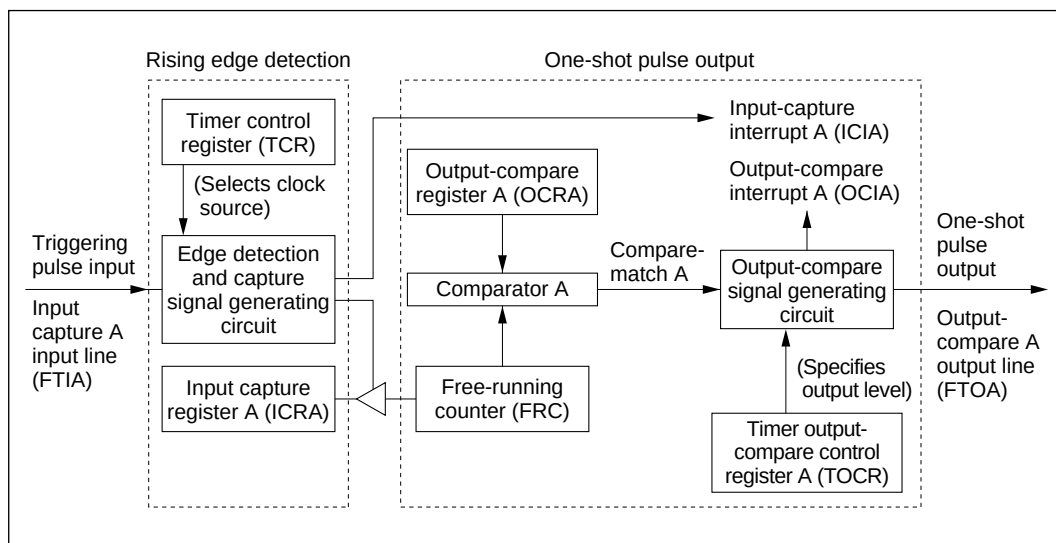

Figure 2 16-Bit Free-Running Timer Block Diagram
1. Figure 2 shows a block diagram of the 16-bit free-running timer used by this sample task. The 16-bit free-running timer has the following functions:
This task uses the preceding functions for one-shot pulse output as shown in figure 2.